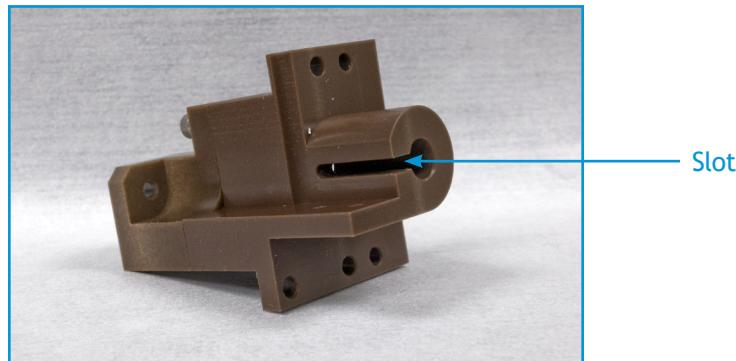

Figure 5-10: Slot in garage body
1. Place the lubricated ball into the slot of the garage body. See 5-Figure 5-10.